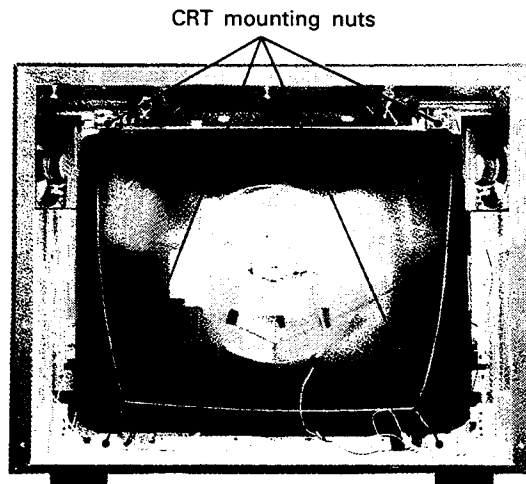

Figure 7
11. Remove the 4 picture tube mounting hex nuts and washers. (Figure 7)
6. Secure the CRT to the cabinet with the 4 CRT mounting washers and hex nuts. (Figure 7)
10. Adjust the 4 CRT adjustment screws (Figure 7) with a flat blade screwdriver to vary the front to rear position of the CRT to eliminate any gaps between the CRT and mask, or mask and cabinet. (Rotate the CRT screw clockwise to move the picture tube toward the front of the cabinet and Counter Clockwise to move it toward the rear).
11. When the CRT position is correct, securely tighten the 4 CRT mounting nuts. (Figure 7)